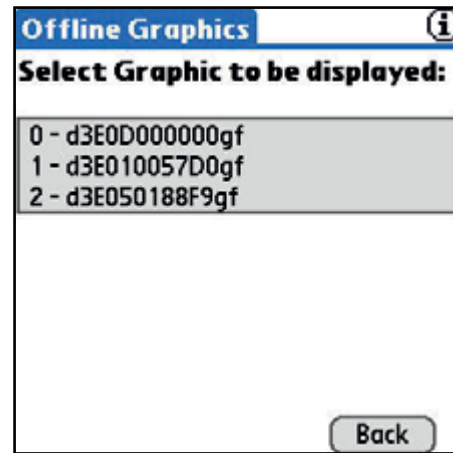
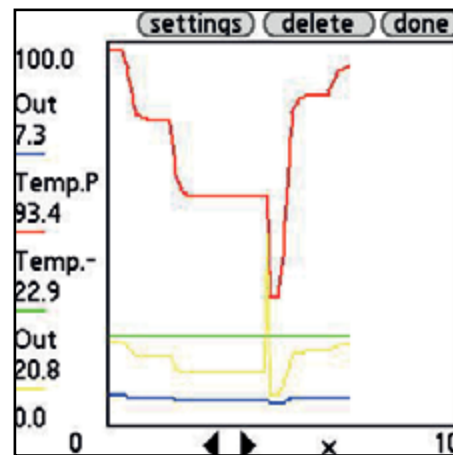

Fig. 16. - Offline Graphics File Selection
Fig. 17. - Offline Graphics
2. A list of all currently available offline graphs will be displayed (Figure 16). Select a file and it will be loaded (Figure 17). The offline graph files follow the following naming convention: dMMDDXXXXXgf where: